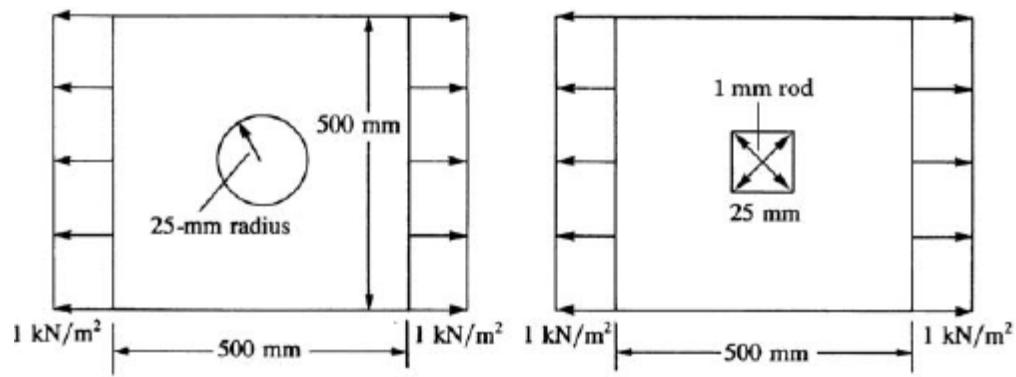

Figure P8.18
18. Determine the stresses in the plates with the round and square holes subjected to the tensile stresses shown in **Figure P8.18**. Compare the largest principal stresses for each plate. Let $E = 210$ GPa, $\nu = 0.25$, and $t = 5$ mm.